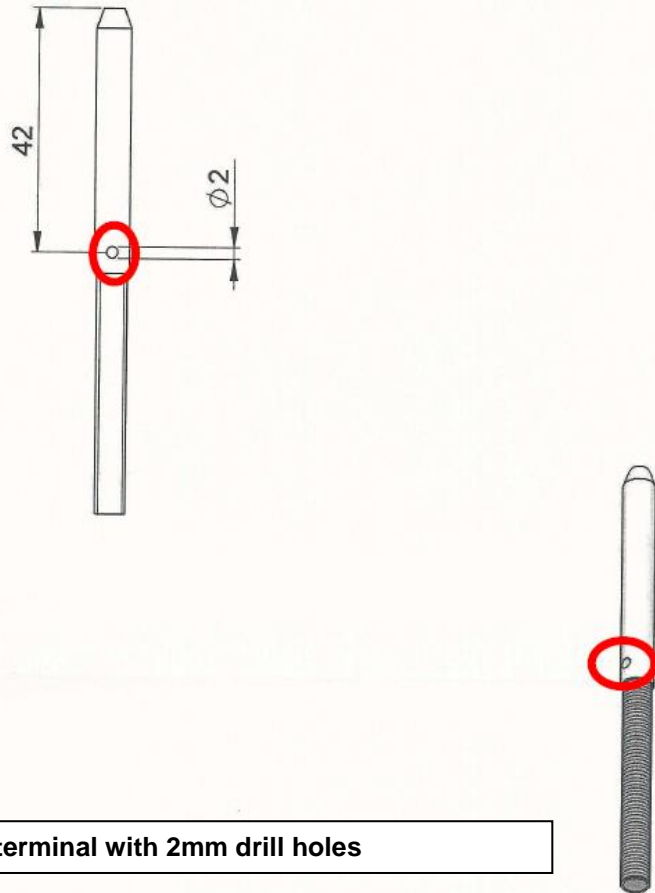

Fig. 1: stud terminal with 2mm drill holes
- 3 Rectification: (if necessary drill a 1.5-2mm diameter hole in the cable end terminal as shown in the drawing (see fig.1), taking care to centralise the hole. Deburr, and remove waste from aircraft) secure it with lockwire.